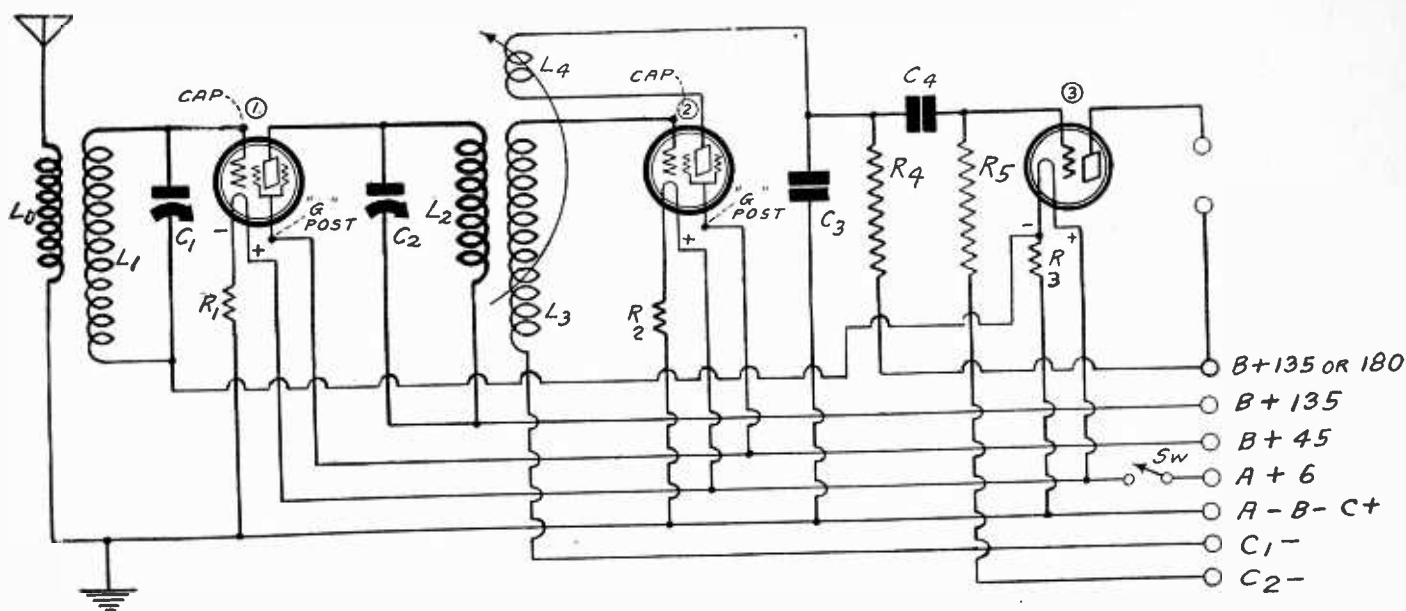

FIG. 714
2)—The circuit is shown in Fig. 714.